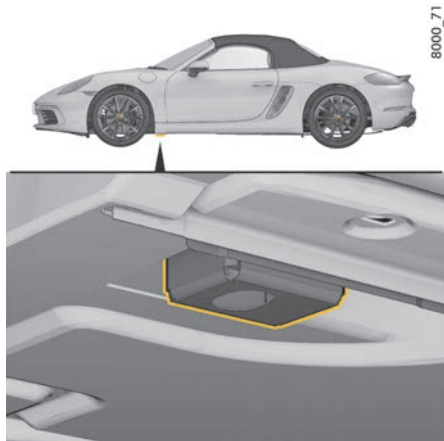
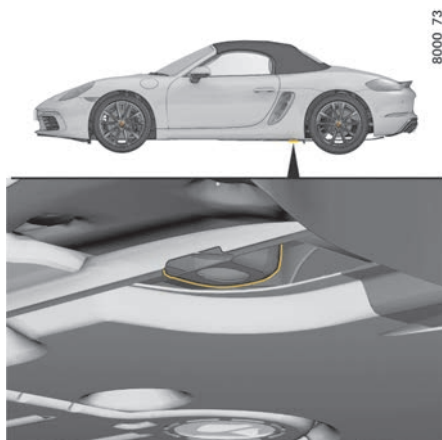

Fig. 97: Front jacking point for lifting platform and jack
Fig. 98: Rear jacking point for lifting platform and jack
- ▶ Raise the vehicle only at the prescribed jacking points (Fig. 97, Fig. 98) on the vehicle underbody.